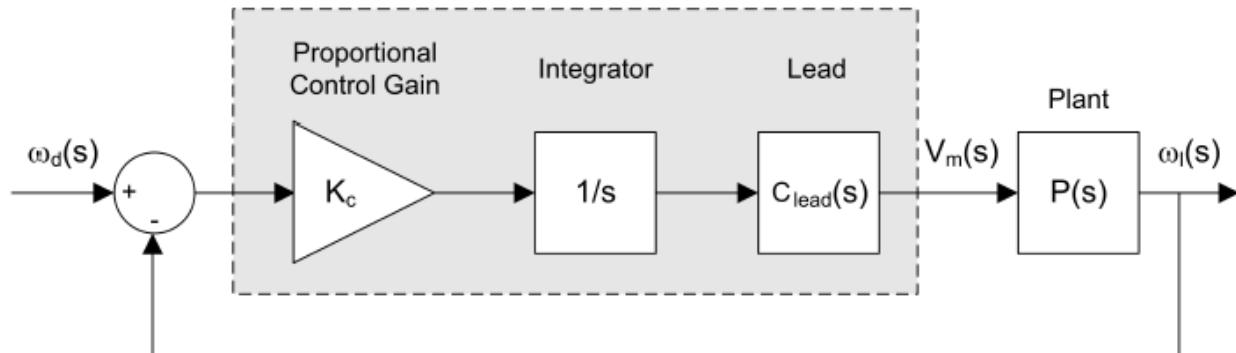
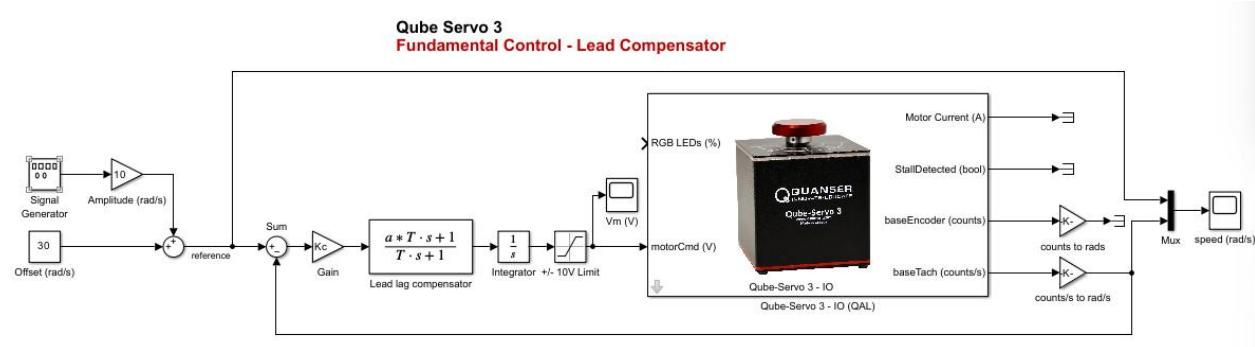

Figure 1: Lead compensator with integrator
Figure 2: Simulink implementation of lead compensator for Qube-Servo 3.
The classic lead compensator given above may not achieve zero steady-state error. To ensure we have zero steady-state error, it is necessary to include an integrator in the controller and so we will use a controller of the form of Figure 1:
The Simulink model shown in Figure 2 implements the lead compensator designed in the previous section for testing on the physical Qube-Servo 3. You will observe that Figure 2 implements the scheme shown in Figure 1.
16. Open the **qs3_lead.slx** Simulink model, design the Simulink model to be like Figure 2 by inserting and connecting the relevant blocks as in Figure 2.
20. Take a screenshot of **Speed (rad/s)** and **Vm (V)** scopes. A sample response using $K_c = 1$ is shown in 3 below: